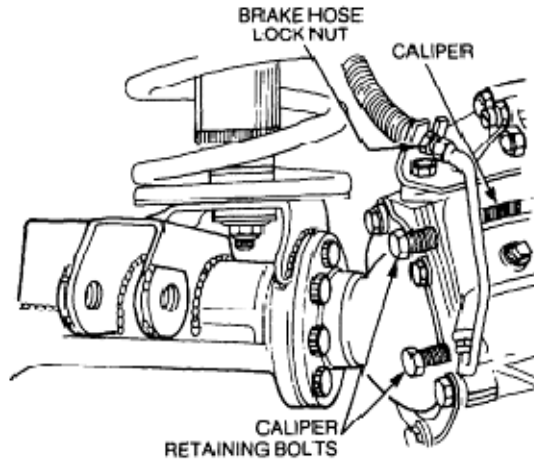

Figure 93 Brake Caliper Removal
- g.** Loosen the nut securing the brake hose to the retaining bracket (Figure 93).